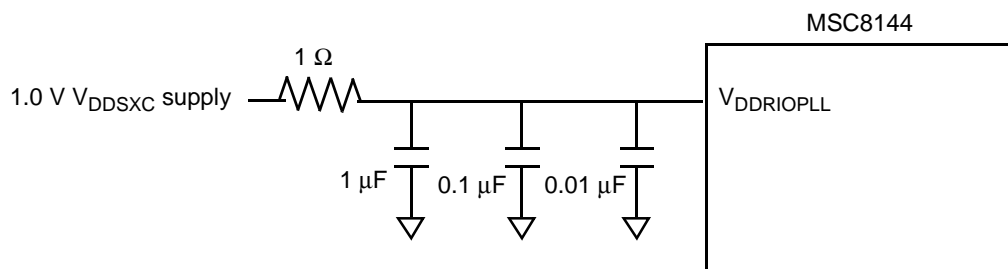

Figure 3. SerDes PLL Supply Filters
- SerDes PLL Filter on the MSC8144ADS. An RC Filter consists of a $1\ \Omega$ resistor and three capacitors: $1\ \mu\text{F}$, $0.1\ \mu\text{F}$, and $0.01\ \mu\text{F}$ capacitors connected to the $V_{\text{DD}SXC}$. Put RC filters as close to the $V_{\text{DD}SXC}$ pad as possible (see **Figure 3**).